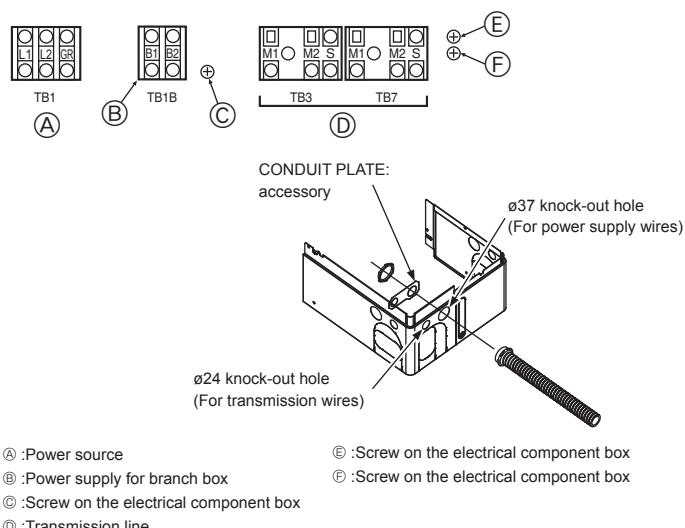

Fig. 7-1
7.2. Control box and connecting position of wiring (Fig. 7-1)
- Connect the branch box transmission line to transmission terminal block (TB3), or connect the wiring between outdoor units or the wiring with the centralized control system to the centralized control terminal block (TB7). When using shielded wiring, connect shield ground of the branch box transmission line to the screw (E or F) and connect shield ground of the line between outdoor units and the central control system transmission line to the shield (S) terminal of the centralized control terminal block (TB7) shield (S) terminal. In addition, in the case of outdoor units whose power supply connector CN41 has been replaced by CN40, the shield terminal (S) of terminal block (TB7) of the centralized control system should also be connected to the screw (E or F) using attached lead wire.